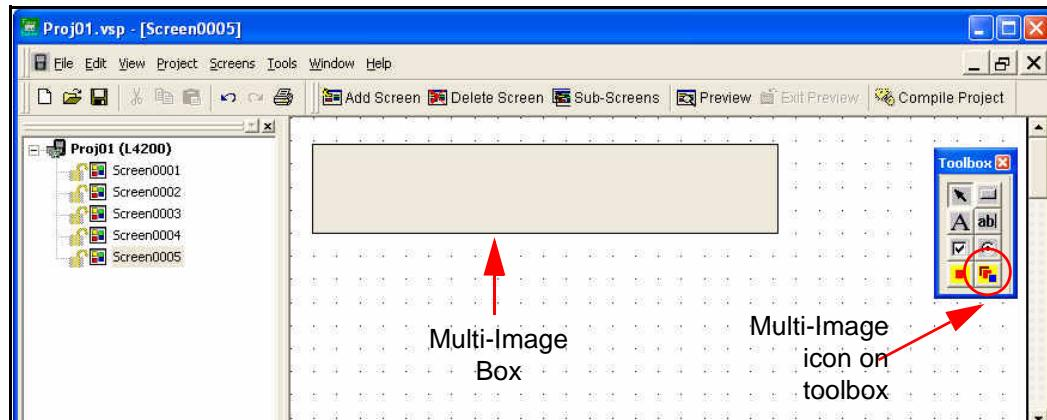

Figure 2-31 Multi-Image Box
2. Click the **Multi-Image** icon on the toolbox as shown in Figure 2-31.